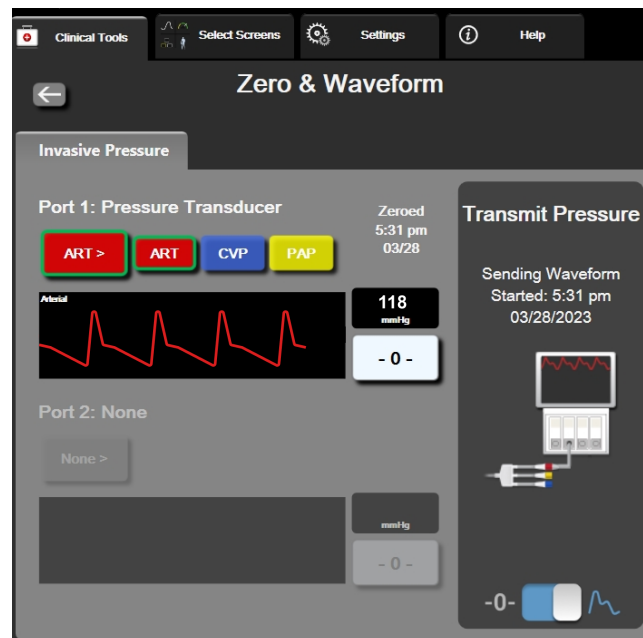

Figure 10-2: Zero & Waveform screen – Zero sensor and Pressure-Out
6. Toggle to the **Transmit Waveform** icon  to begin pressure signal output to the patient monitor. A "**Sending Waveform Started:**" message with the timestamp is displayed when the live waveform is being transmitted to the connected patient monitor. See Figure 10-2 on page 198.